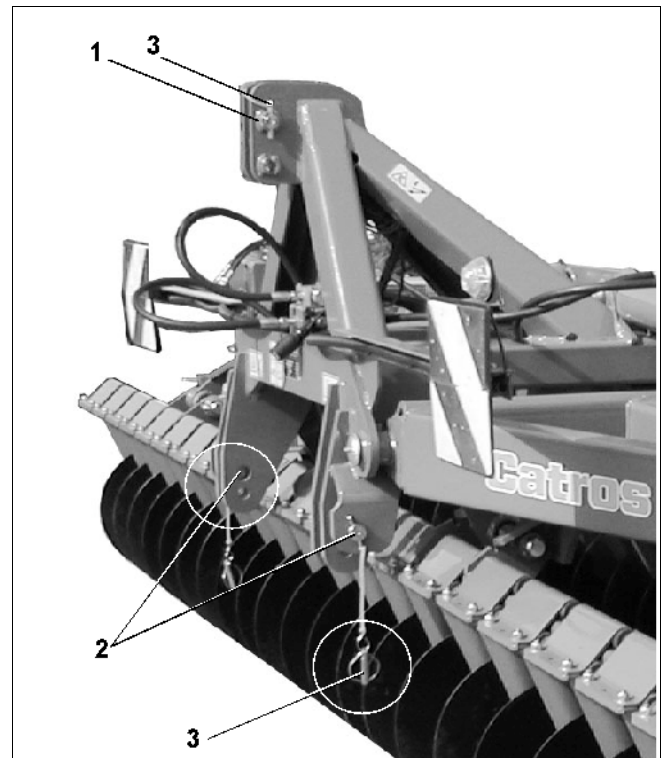

Fig. 10
- Mount the lower link arms of the tractor to the lower coupling points of the machine using lower link pins (Fig. 10/2) and secure using clip pins (Fig. 10/3).
- Use the upper link pin to mount the upper link of the tractor to the upper coupling point of the implement (Fig. 10/1) and secure using a clip pin (Fig. 10/3).